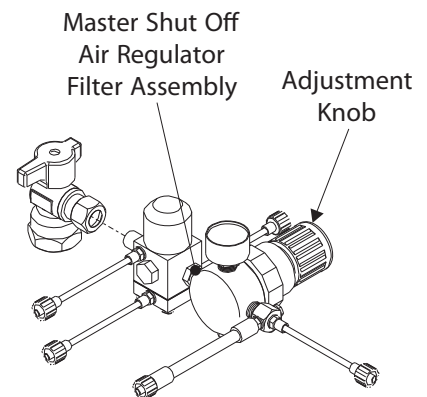

Figure 2.
- Supplied Master Shut Off Air & Water Regulator Filter assemblies are PRE-ADJUSTED. Insert the nipple of each assembly into the compression fitting of its designated Supply Stop Valve, "A" for Air & "W" for Water, and tighten. Check for leaks & confirm Air & Water pressure settings on gauge, Air 85psi & Water 40psi . Pull Adjustment knob & turn to adjust push down knob to lock. See Figure 2.